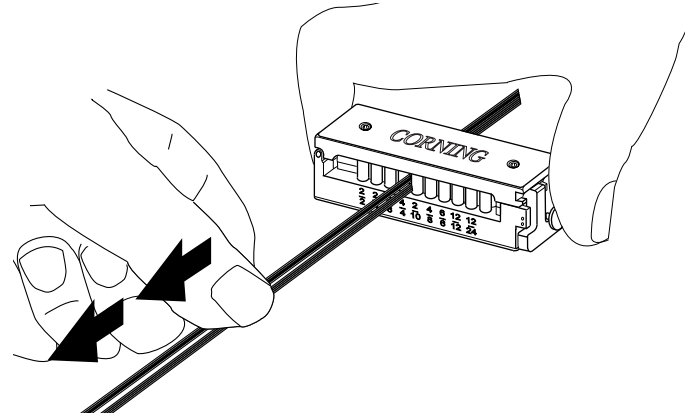

Figure 22
- 6.7** If appropriate for your installation, divide the ribbon(s) using the RST-000 tool as described in SRP-004-098 (Figure 22).